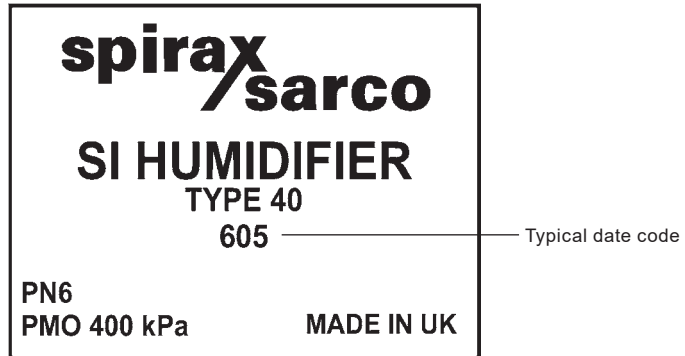

Fig. 2.
2.3 Identification (see Figure 2)